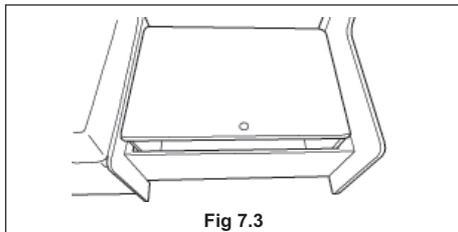

Fig 7.3
Once the three infill sections have been removed from the storage box, lift items 1 & 2 into the upright position, in this position magnetic catches will lock the parts into place. Once in place the storage box lid should be slotted into place as displayed (Fig 7.3).